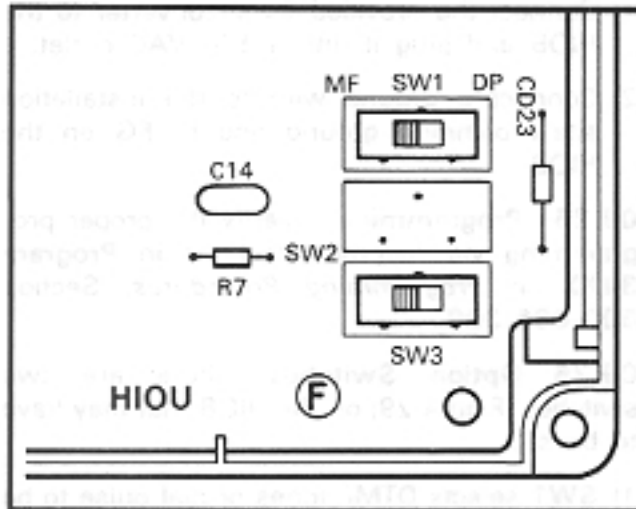

FIGURE 29—HIOB SWITCHES
09.26 Option Switches: There are two switches (Figure 29) on the HIOB that may have to be set.